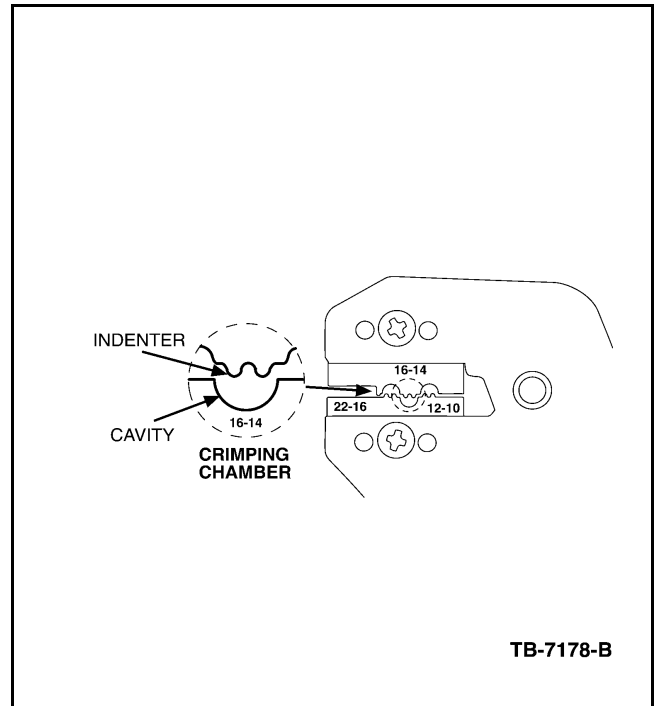

Figure 3 - Article 04-3-2
3. Identify the appropriate crimping chamber of the Rotunda 164-R5901 Pro-Crimper by matching the wire size on the dies with the wire size stamped on the butt splice (Figure 3). Hold the crimping tool so the identified wire sizes are facing you. Squeeze tool handles together until the ratchet releases, then allow the jaws of the tool to open fully.